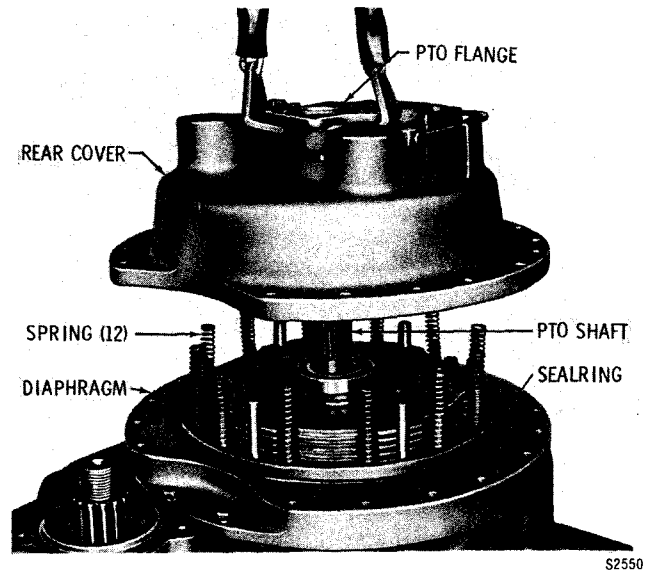

Fig. 7-30. Installing rear cover assembly (TTB)
(1) Attach a sling to the bolt circle flange of the rear cover assembly (as assembled in para 6-21). Hoist the assembly into position over the transmission in a manner similar to that shown in figure 7-30.
(2) Check to ensure that all of the brake return springs are straight and aligned, and that the sealring is in place on the diaphragm (fig. 7-30).
(3) Lower the assembly to within approximately 1-1/4 inches (32 mm) of the diaphragm and check "by feel" to ensure that each brake return spring will enter its recess in the brake-apply plate.
(4) Continue lowering the assembly until it stops its downward travel and its weight is supported by the brake return springs. Remove the sling. Using two 3/8-16 x 3-inch bolts, draw the rear cover assembly down sufficiently to allow the engagement of the proper bolts. Install sixteen 3/8-16 x
(1) Attach a sling to the PTO flange of the rear cover assembly (as assembled in para 6-21). Hoist the assembly into position over the transmission, as shown in figure 7-30.
(3) As the rear cover assembly is lowered, rotate the PTO flange, so that the shaft splines will engage the high-range clutch hub and the forward-and-reverse sun gear.
(4) Lower the assembly to within approximately 1-1/4 inches (32 mm) of the diaphragm and check "by feel" to ensure that each brake return spring will enter its recess in the brake-apply plate. Attach the rear